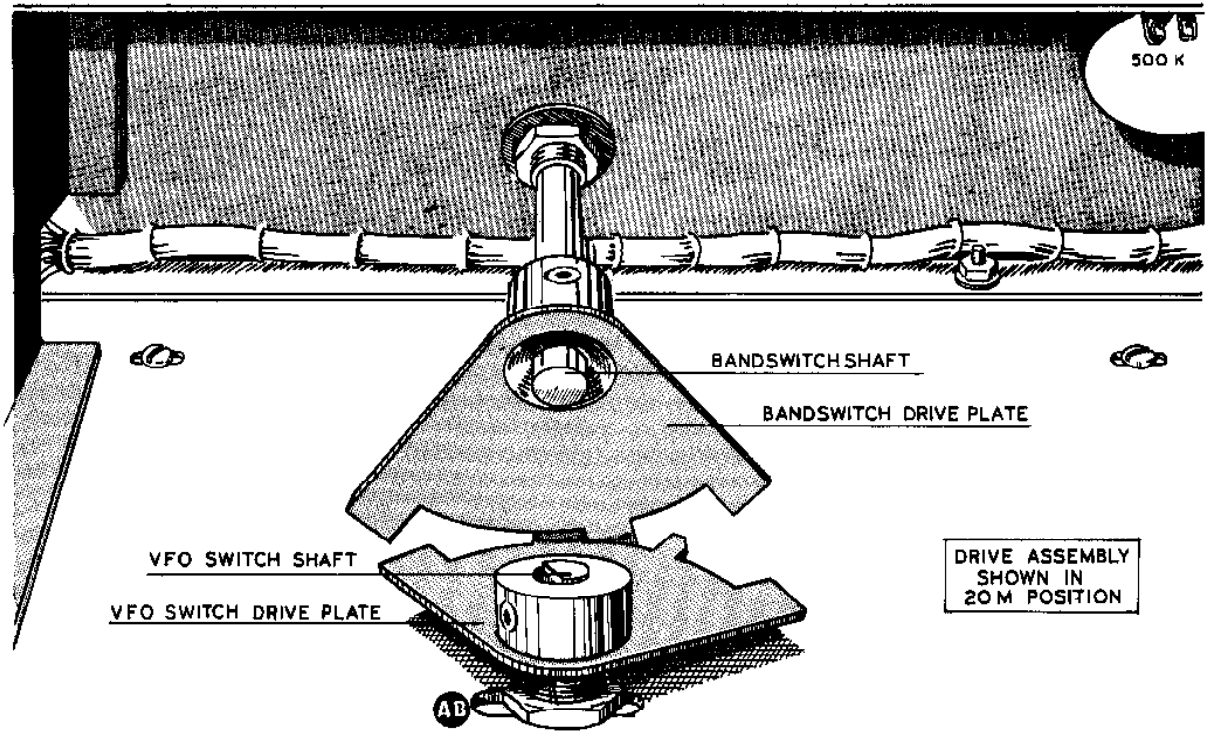

Figure 35
✗) Looking at the VFO switch shaft from the bottom of the chassis, rotate it to the full CCW position. Locate the VFO switch drive plate. This is the plate with four cogs on it. Start a #8-32 x 1/4 inch Allen head set screw in the hub and then slip the plate on the VFO switch shaft plate first (hub out) and secure with the hub face flush with the end of the shaft by tightening the set screw on the shaft flat. Refer to Figure 35.
- () Rotate the VFO switch shaft two steps in the CW direction. Locate the band switch drive plate, which is the plate with three cogs on it and start a #8-32 x 1/4" Allen head set screw into the hub. Position the band switch drive plate so the cogs of the two plates mesh as shown in Figure 35. Before securing the set screw on the shaft flat, further position the band switch drive plate so its cogs are about 1/32" from the cog base edge of the VFO drive plate. Now secure the band switch drive plate set screw.